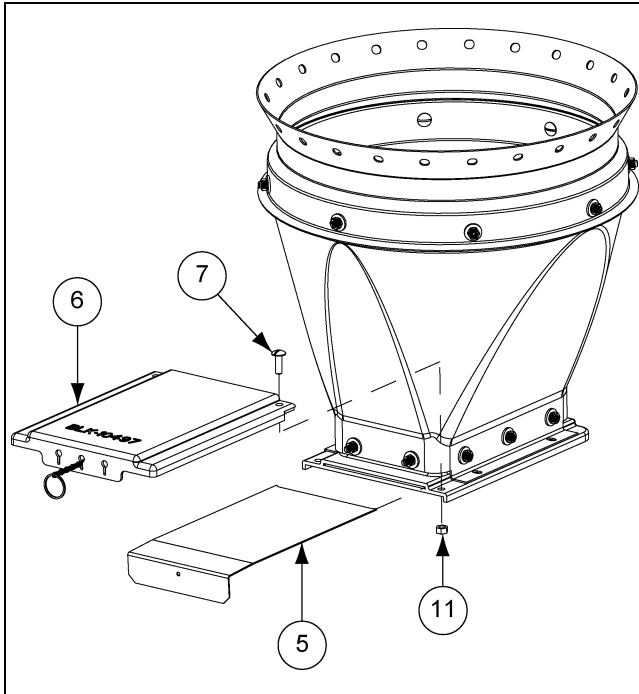

Figure 5D
Insert the slide into the transfer plate. The slide must be in its operating position prior to attaching the slide shield to the transfer plate. Use two (2) 5/16"-18 x 1" truss head tap bolts to mount the slide shield. (See Figure 5D.)